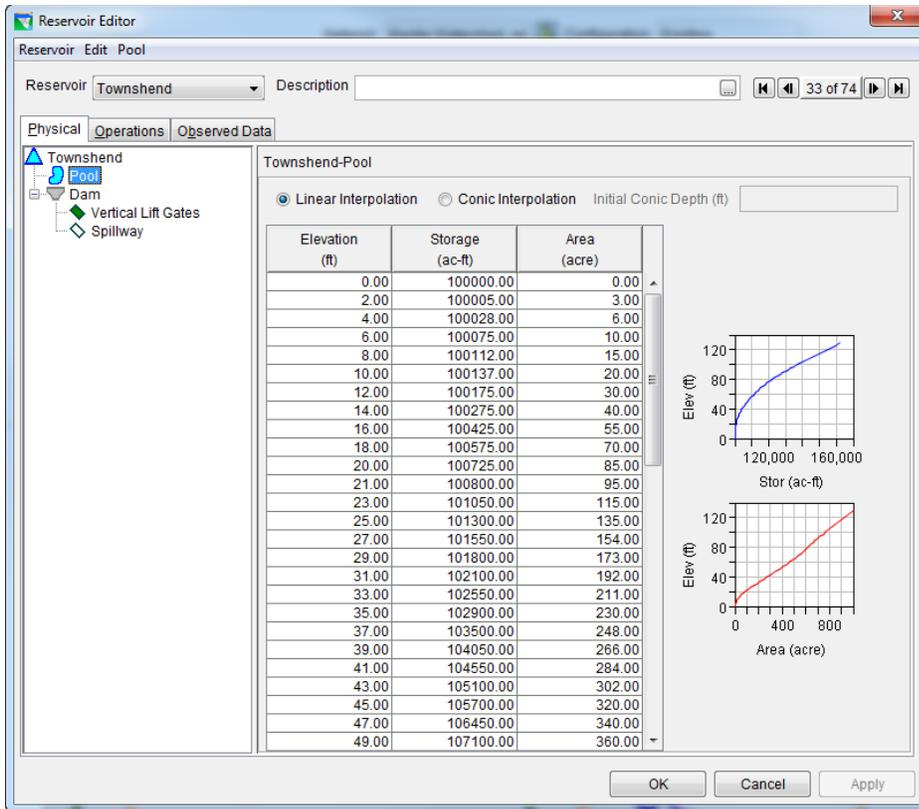
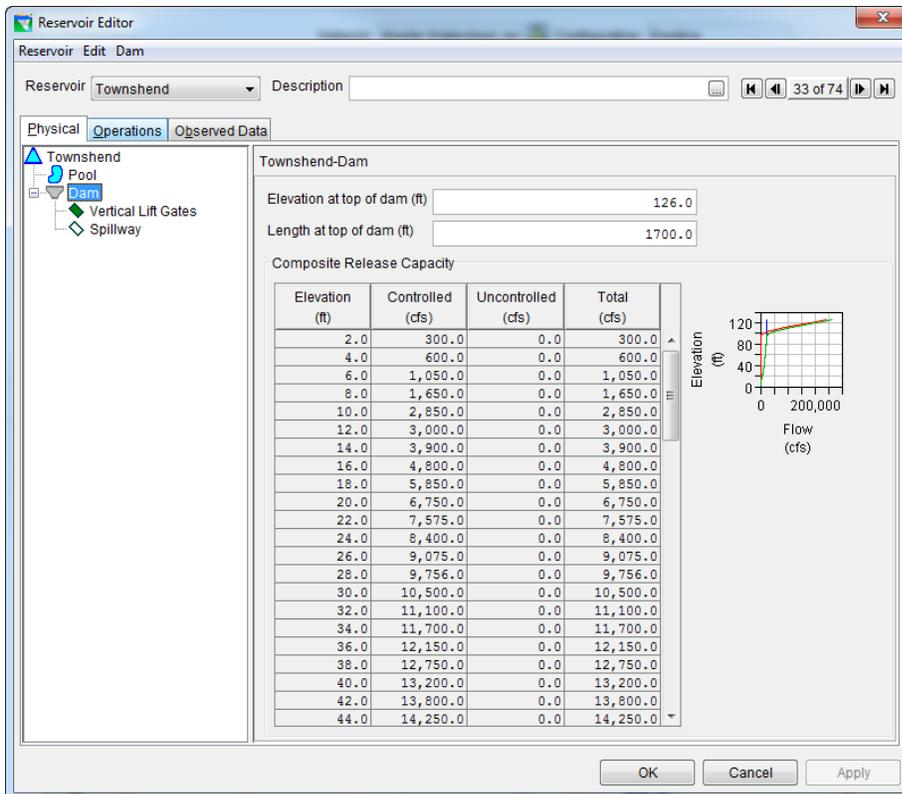

Figure 3: Reservoir Editor: Physical Tab -- Pool
Figure 4: Reservoir Editor: Physical Tab -- Dam
The physical characteristics of the reservoir are separated between the Pool and the Dam in the HEC-ResSim model. The elevation-storage-area defines the pool as shown in Figure 396. The dam consists of two types of outlets: (1) uncontrolled spillway, and (2) controlled Draw-down Conduit as shown in Figure 4.
The physical characteristics of the reservoir are separated between the Pool and the Dam in the HEC-ResSim model. The elevation-storage-area defines the pool as shown in Figure 3. The dam consists of two types of outlets: (1) controlled vertical lift gates, and (2) uncontrolled spillway, as shown in Figure 4. All physical and operations data were provided by US Army Corps New England District, through both a previously created ResSim model and the Reservoir Regulation Team website97.